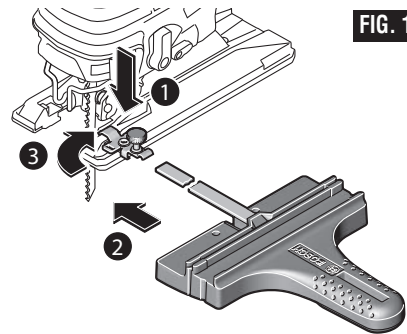

FIG. 13
3. Place lock knob(s) on proper side of clamp(s) and securely tighten lock knob(s) on the clamp(s) (Fig. 13).
3. Securely tighten lock knob(s) on the clamp(s) (Fig. 13).
8. Place lock knob(s) on proper side of clamp(s) and securely tighten lock knob(s) on the clamp(s) (Fig. 13).